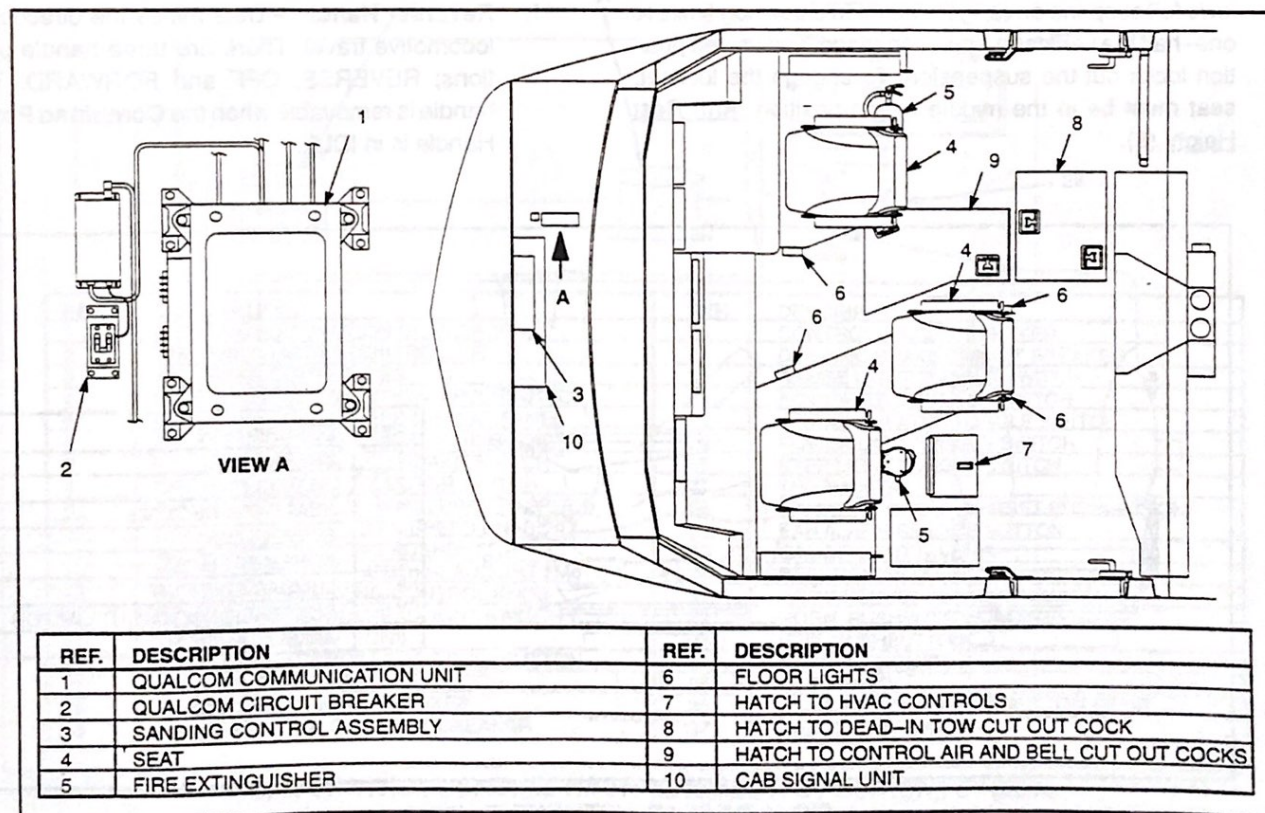

FIG. 3. OPERATING COMPARTMENT EQUIPMENT, NOSE AND FLOOR. E-42714.
**NOTE:** Numbers in parentheses ( ) refer to Items found on Figure 3 of this publication unless noted otherwise.
A fresh air damper is provided (Fig. 3) to allow fresh air supply into the cab to be shut off in extreme weather, or during an HVAC malfunction. The damper should normally be left open to provide fresh air to the cab and toilet room. The HVAC unit also provides cab pressurization.